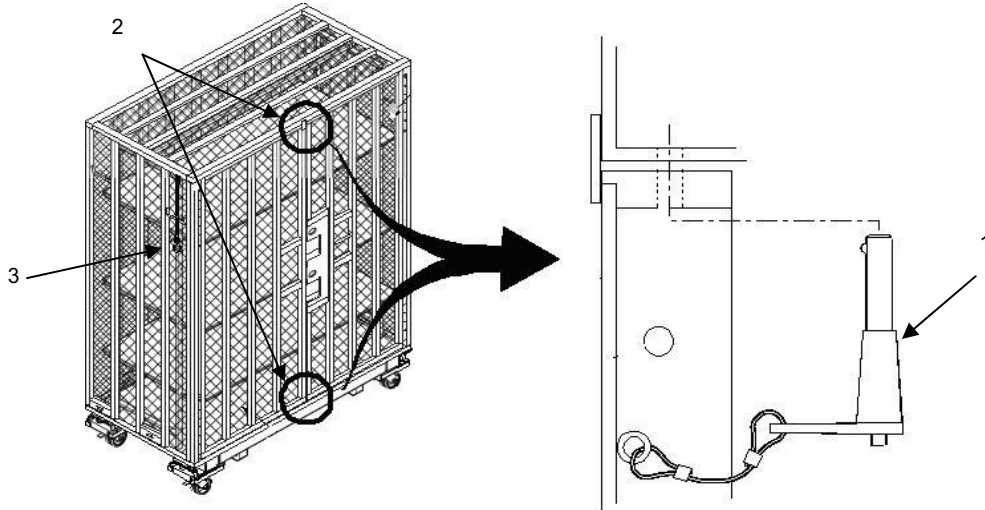

Figure 3-23. Removing Release Pins from the Secondary Doors.
6. Take out the release pins (Figure 3-23, Item 1) from the top and bottom (Figure 3-23, Item 2) of the secondary door (left side) and open. Attach S-hook of the safety chain Figure 3-23, Item 3).